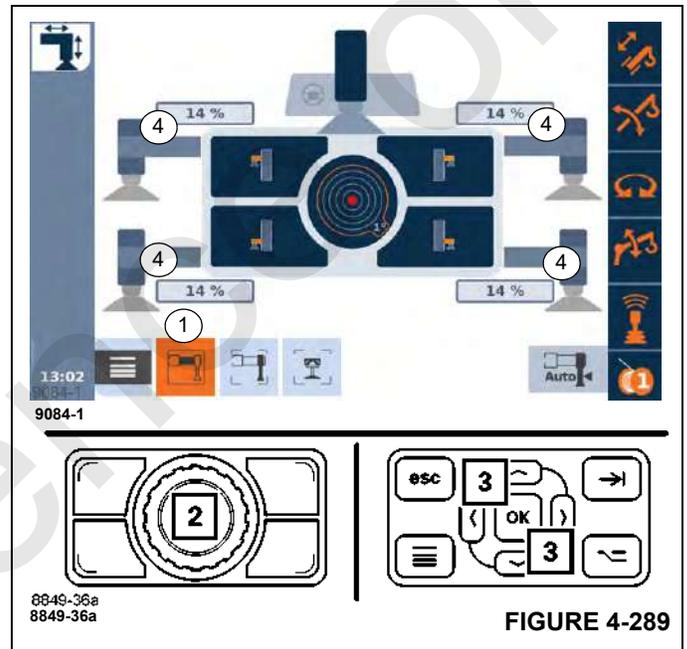

FIGURE 4-289
Depending on the equipment of the truck crane, the outrigger span (Figure 4-289) is shown in meters, feet or percent (%).
- Select and confirm the symbol (1), (Figure 4-289).
- Use the jog dial buttons (2), (Figure 4-289) or (3), (Figure 4-289) to select the rigged outrigger span.
- Press the extend/retract button to position the outriggers to the desired position (4), (Figure 4-289).